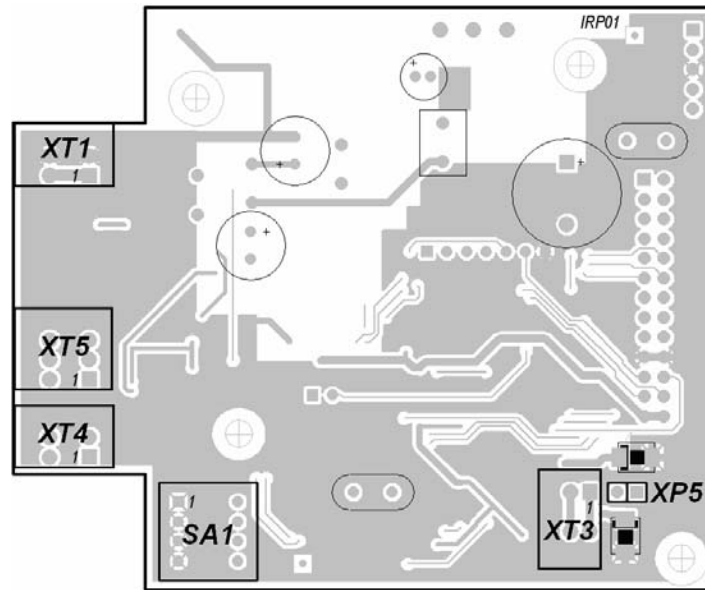
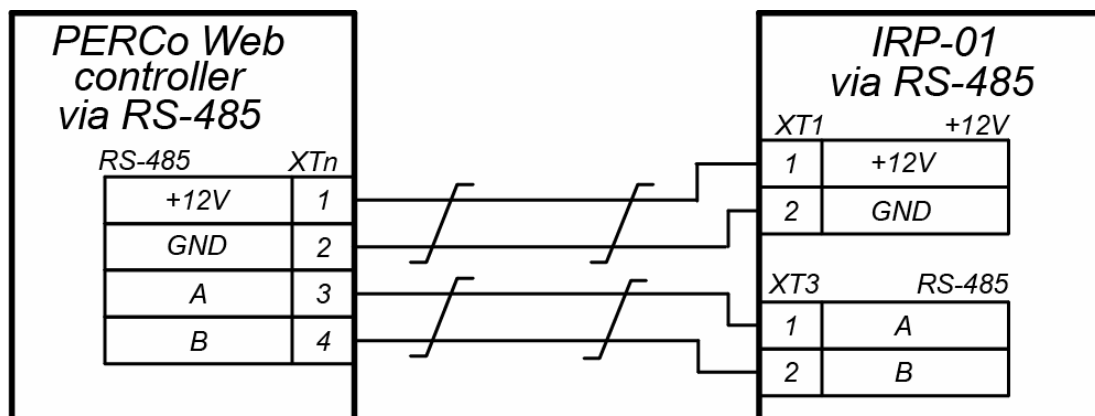
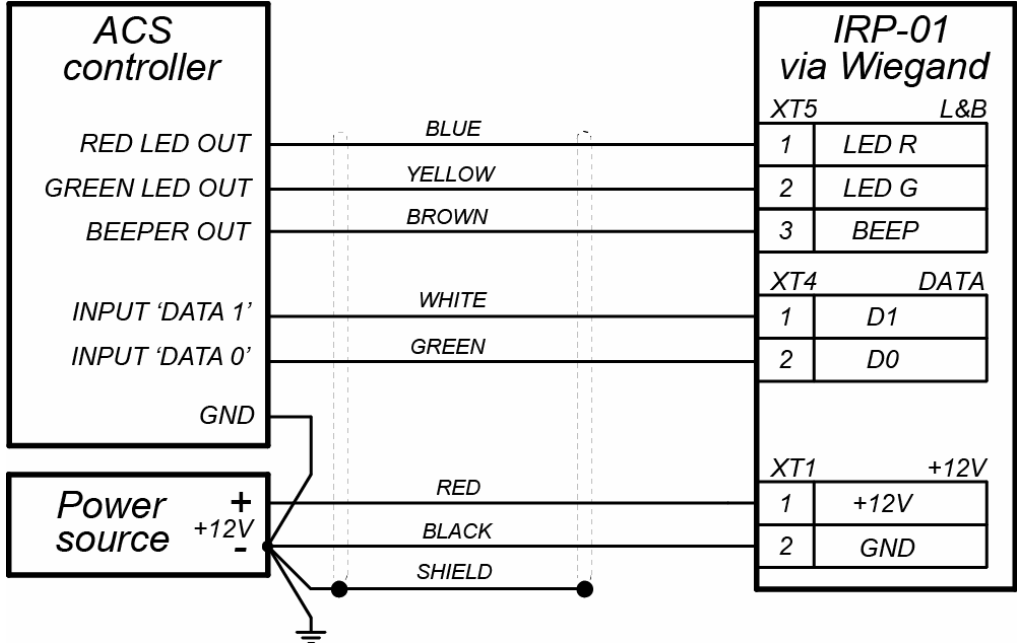

Figure 2. The board of the reader
Figure 6. Connection layout for RS-485 interface of PERCo Web controller
Figure 7. Connection layout for Wiegand interface of ACS
The board of the reader is shown on Fig. 2.
The interface of the reader is chosen with the use of switch №1 of DIP-switch **SA1**, located on the board of the reader (see Fig. 2):
To operate the reader in *RS-485* mode the switch №1 of DIP-switch **SA1**, located on the board of the reader (see Fig. 2), shall be set in *ON* position. When the reader is connected via *RS-485* interface, it can be used as an external reader for **PERCo Web** controllers.
The number is selected with the use of switch 2 of DIP-switch **SA1**, located on the board of controller (see Fig. 2), in such case switch 1 shall be set in *ON* position. Number of reader is determined according to Table 1.
To operate the reader in *Wiegand* mode the switch 1 of DIP-switch **SA1**, located on the board of the reader (see Fig. 2), shall be set in *OFF* position. If the reader is connected to *Wiegand* interface, it can be used an external reader for ACS controllers.
During the operation of ACS controllers LCD shows the same indication as depicted in Section 5.1.2. There are two possible options to control indication: «*single line*» and «*double line*». The option is selected with the use of switch 2 of DIP-switch **SA1**, located on the board of the reader (see Fig. 2), in such case switch 1 shall be set in *OFF* position. Indication control option is determined according to Table 2.
Control signals in case of «single line» mode are transmitted via the line that is connected to *Led R* contact (see Fig. 7) of *XT5* connector on the reader board (see Fig. 2). In case of «double line» mode control signals are transmitted via two lines connected to *Led R*, *Led G* contacts of *XT5* connector on the reader board. To control sound indication of the reader with ACS controller it is necessary to connect the wire that is connected to *Beep* contact of *XT5* connector with the negative terminal of power supply unit. Indication of reader is given in 3 according to control signals received by the reader.
Wiegand output data format is selected with the use of switches 3 and 4 of DIP-switch **SA1**, located on the board of the reader (see Fig. 2), in such case switch 1 shall be set in *OFF* position. *Wiegand* format of the reader is determined according to Table 4.
12. Lay the cable inside the reader post, fix it and connect it to the board of the reader according to connection layouts shown on Fig. 6 or Fig. 7.
14. Connect the cable to the PERCo Web controller or ACS according to layout given on Fig. 6 or Fig. 7.